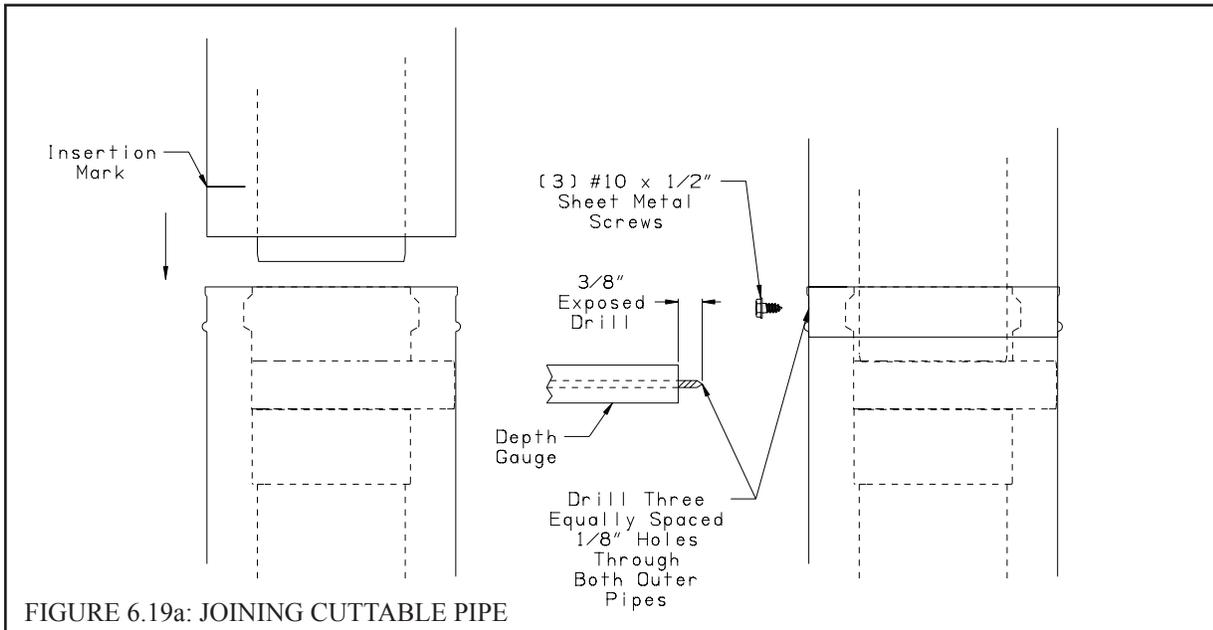

FIGURE 6.19a: JOINING CUTTABLE PIPE
- c) The male end of cuttable fittings must be held to the collar with three #10 x 1/2" sheet metal screws. Drill a 1/8" hole through both outer pipes to start this screw. **Use a drill stop or other means to ensure that the drill bit does not penetrate more than 3/8" into the outer pipe. Do not use a sheet metal screw longer than 1/2"** (Figure 6.19a).